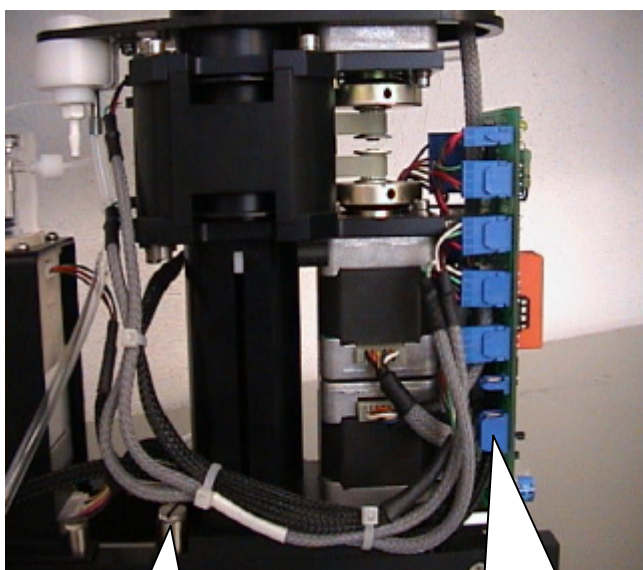

Fig. 5
6. Unscrew the four anchored screws indicated in (Fig.5), unplug the J1, J2, J15 and J17 connectors from the Sampling Interface assy (Fig.5). Disconnect the ground wire and remove the sampling arm.